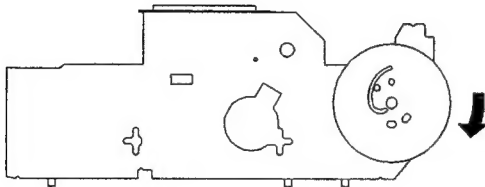

Fig. 2
2. Turn the tuning knob clockwise completely (Fig. 2).